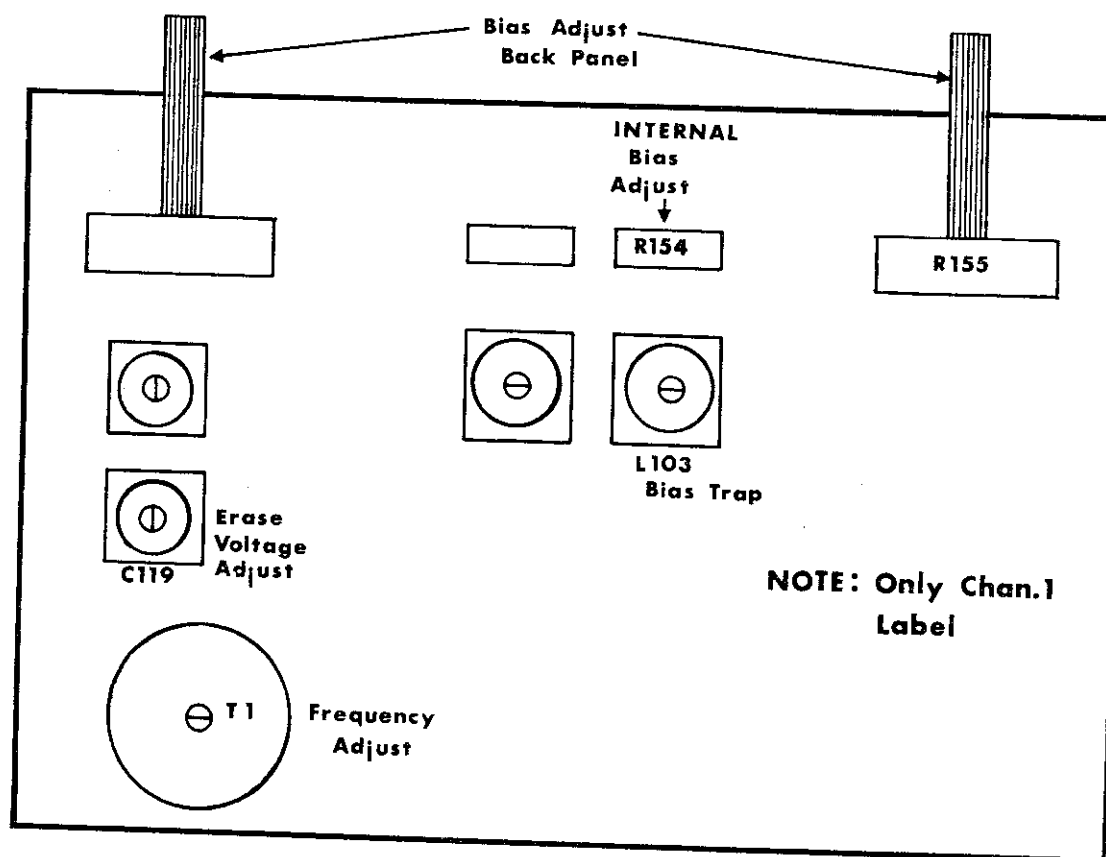

FIG. 10-10 OSCILLATOR BOARD OUTLINE
- A. Set oscillator to $100\text{KHz} \pm 5\text{K-O}$, (slug of T-1 on OSC board) (See fig. 10-10).
1. This can be done by connecting the audio voltmeter to the Q107 side of the record level control (R151 on Main Board) and adjusting the bias traps L103 (See fig. 10-10, and 10-11).